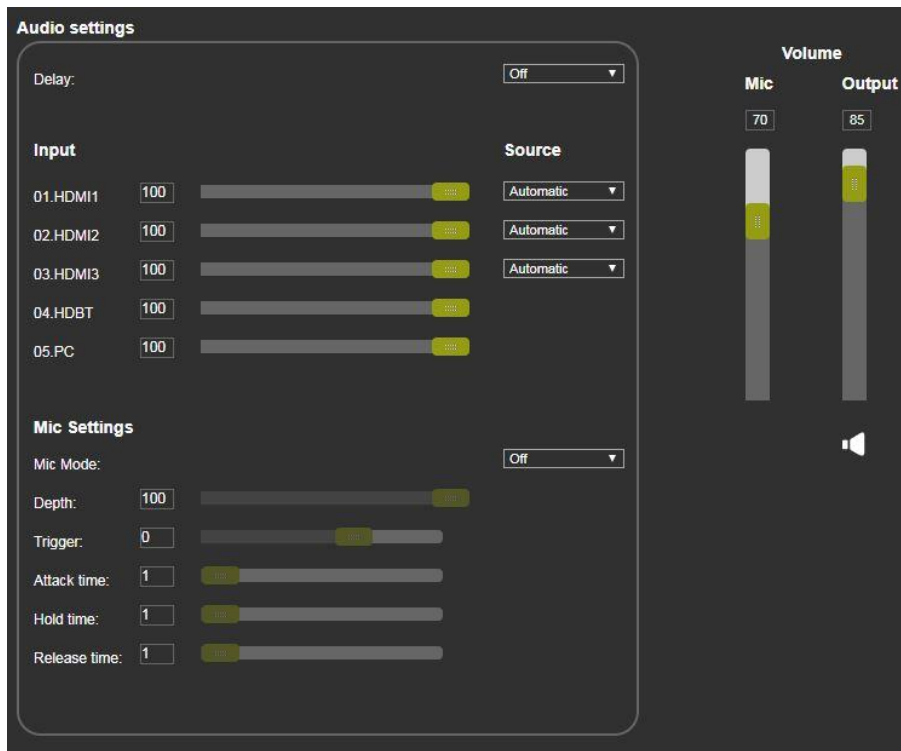

Figure 24: Audio Page
1. Click **Audio** on the left side of the web page (Figure 11). The Audio page appears (Figure 24).